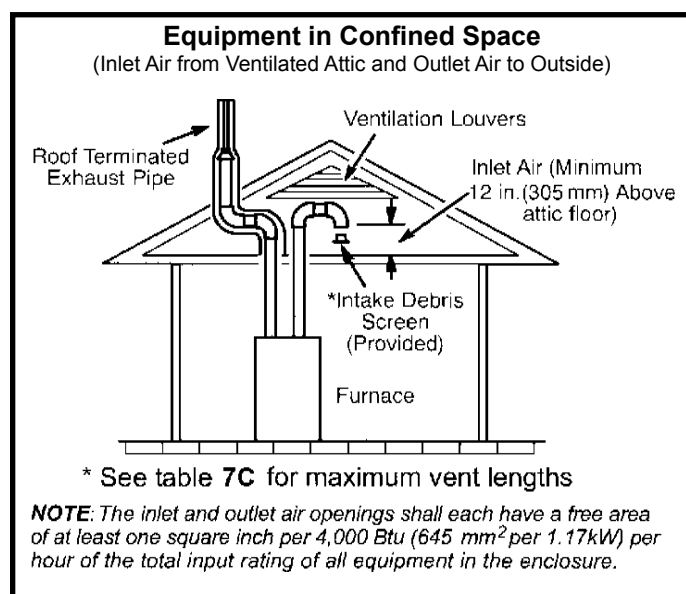
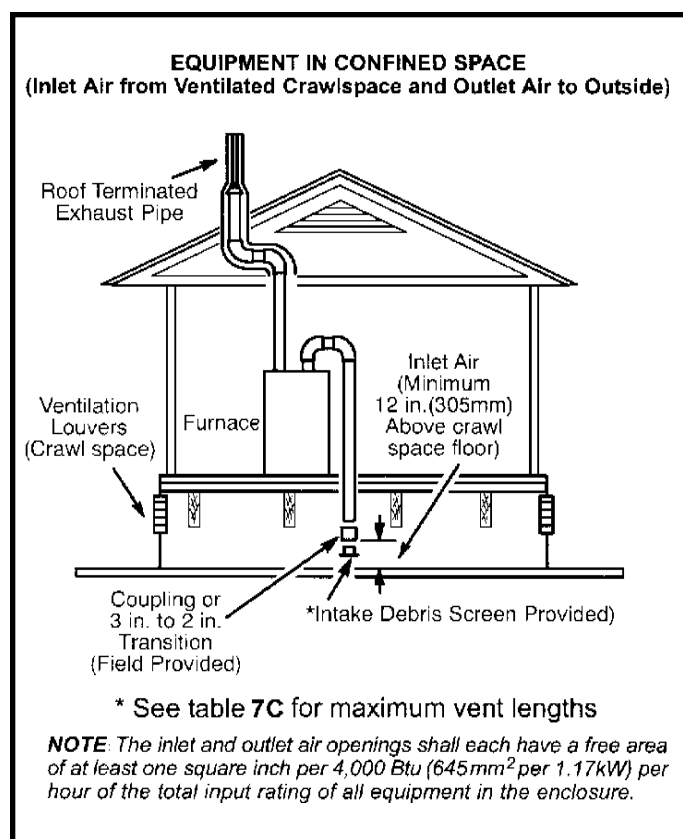

Figure 24
Figure 25
2. If intake air is drawn from a ventilated crawlspace (Figure 25) or ventilated attic (Figure 24) the exhaust vent length must not exceed those listed in Table 7C. If 3" diameter pipe is used, reduce to 2" diameter pipe to accommodate the debris screen.